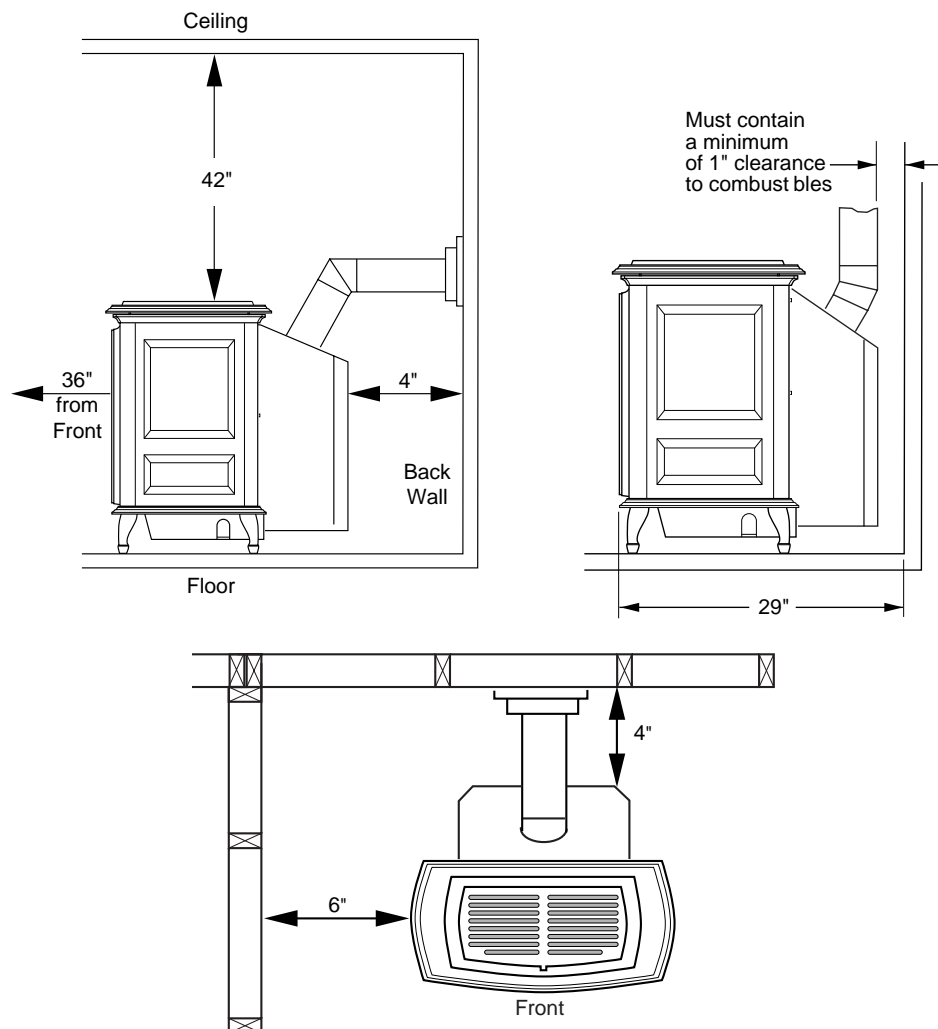
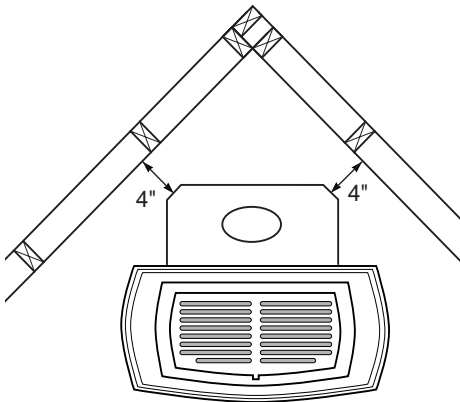

Figure 3 - Clearances for Standard Installation
Figure 4 - Clearance for Corner Installation
3. Proper clearances must be maintained, see Figure 3 and Figure 4 on page 5.